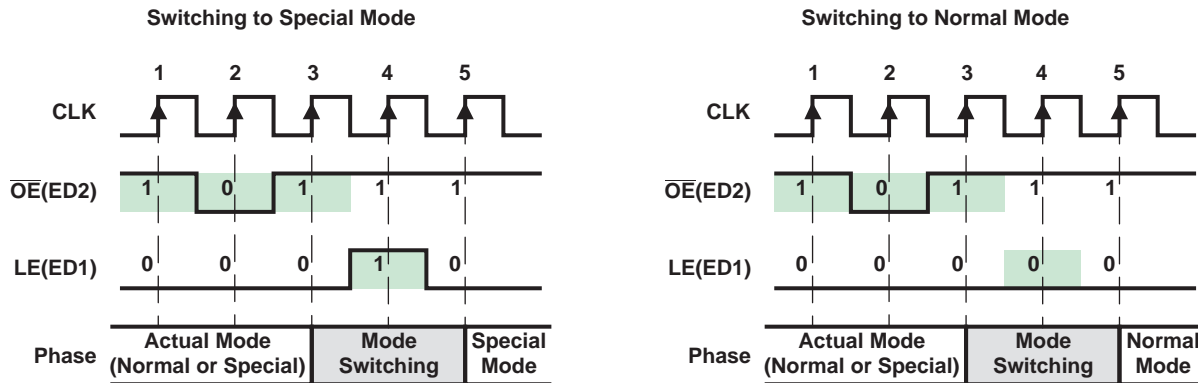

Figure 15. Mode Switching
To switch between its two modes, TLC5916/TLC5917 monitors the signal $\overline{OE}(ED2)$. When an one-clock-wide pulse of $\overline{OE}(ED2)$ appears, TLC5916/TLC5917 enters the two-clock-period transition phase, the Mode Switching phase. After power on, the default operation mode is the Normal Mode (see Figure 15).
As shown in Figure 15, once a one-clock-wide short pulse (101) of $\overline{OE}(ED2)$ appears, TLC5916/TLC5917 enters the Mode Switching phase. At the fourth rising edge of CLK, if LE(ED1) is sampled as voltage high, TLC5916/TLC5917 switches to Special Mode; otherwise, it switches to Normal Mode. The signal LE(ED1) between the third and the fifth rising edges of CLK cannot latch any data. Its level is used only to determine into which mode to switch. However, the short pulse of $\overline{OE}(ED2)$ can still enable the output ports. During mode switching, the serial data can still be transferred through SDI and shifted out from SDO.